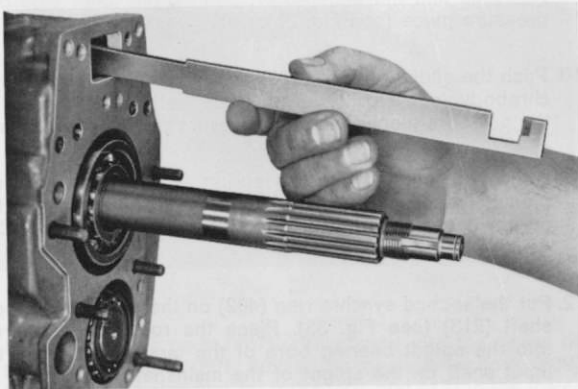

Fig. 48
3. Assemble shift rails. First the shortest, reverse gear shift rail (Fig. 48). Note that the notch at the end of the rail lies near the shift lever (640) and should point upwards. This applies also for the 2 other shift rails. Insert welded pivots 2nd and 3rd gear shift rails (612) with the 2 plastic bolts (611).